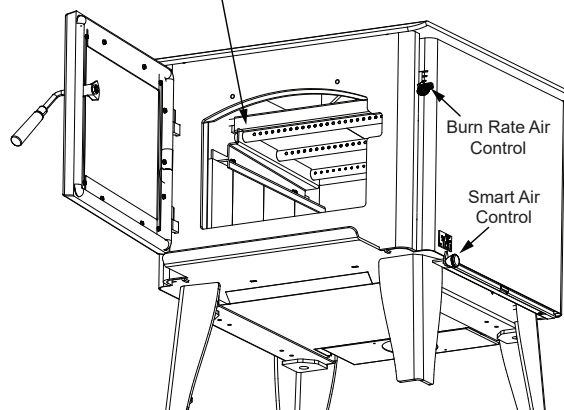
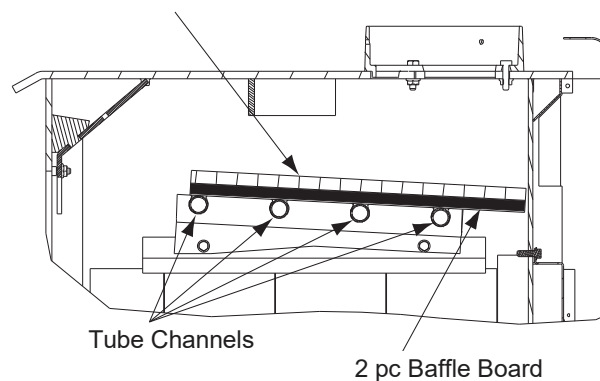

Figure 11.1
Figure 11.2
1. Confirm the baffle is correctly positioned. It should be even with the front tube and resting on all tubes (**Figure 11.1 and Figure 11.2**).